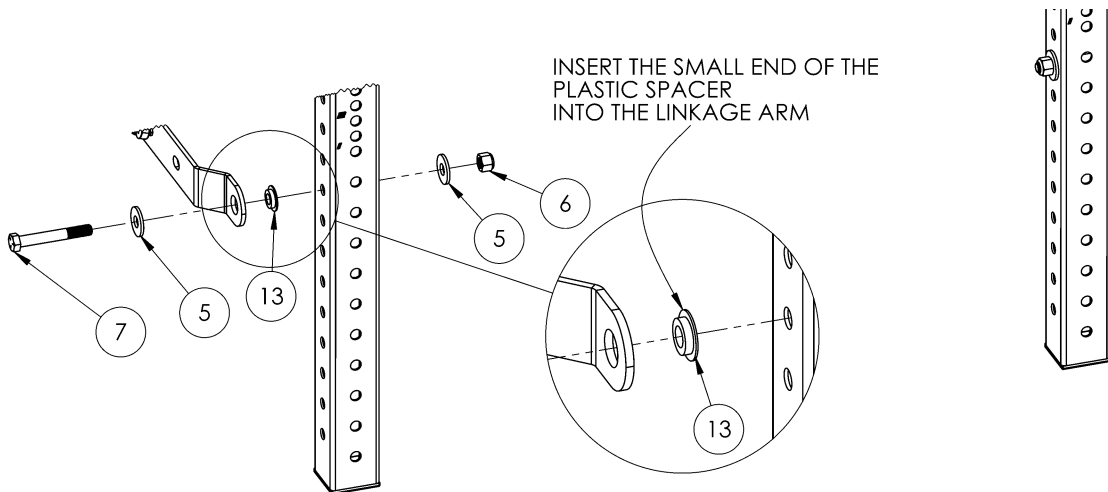

Figure 9: Bolting the Rack to the Lower Linkage Arms
3. Bolt the lower linkage arm on the upright between numbers 6 and 7 using the 5/8" x 4-1/2" hex bolt (7), two 5/8" flat washers (5), one plastic spacer (13), and one 5/8" locknut (6) (**Figure 9**). Tight to be snug but do not overtighten. Repeat this on the other side.